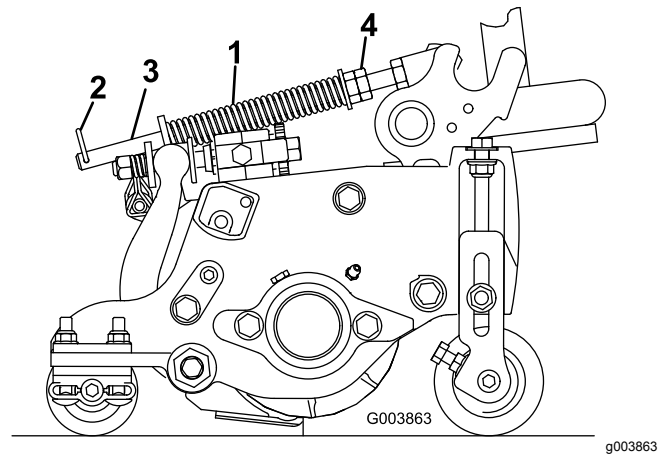

Figure 15
2. Tighten the hex nuts on the front end of the spring rod until the compressed length of the spring is 12.7 cm (5 inches) on Reelmaster 5410 (5-inch cutting units) or 15.9 cm (6.25 inches) on Reelmaster 5510 (7-inch cutting units); refer to Figure 15.
The turf-compensation spring (Figure 15) transfers weight from the front to the rear roller. This helps to reduce a wave pattern in the turf, also known as marcelling or bobbing.
1. Make sure the hairpin cotter is installed in the rear hole in the spring rod (Figure 15).